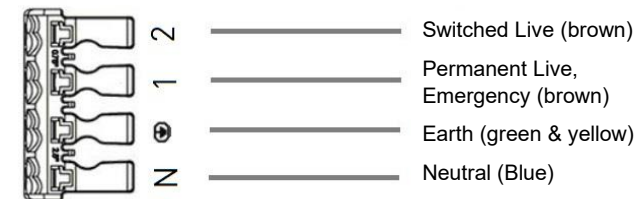

Fig. 4
- Connect the luminaire to the mains supply ensuring the correct polarity is observed: 1 – Permanent Live, Emergency, 2 – Switched Live (brown), Earth Symbol – Earth (green/yellow), N – Neutral (blue) (see Fig. 4)